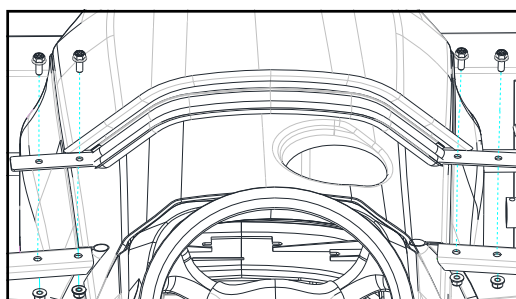

Fig. 5.1
5.1 Per Figure 5.1, align and fasten the front leg cross member to the front left and right legs using the hardware listed below. **Install finger tight at this time.**